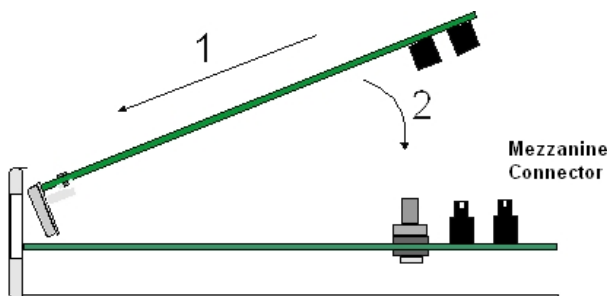

Fig. 18: **Inserting the PMC expansion card**
- (7) Place the PMC board standoff posts over the securing screws. Secure these firmly.
- (8) Place the PMC card in the slot so that this firstly adjusts to the space on the device rear panel and subsequently to the two PMC connections. This operation must be carried out carefully, without forcing any piece or part of the device. Check that the board is clearly settled over the PMC connectors. Please see Fig. 18 on page 13.